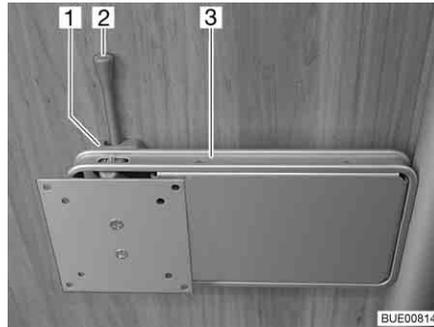

Fig. 97 Holder on the column
- Push the release lever (Fig. 97,2) to the side and turn the holder (Fig. 97,3) with the flat screen to the desired position.
- Turn flat screen back until the holder (Fig. 97,3) engages in the lock (Fig. 97,1).